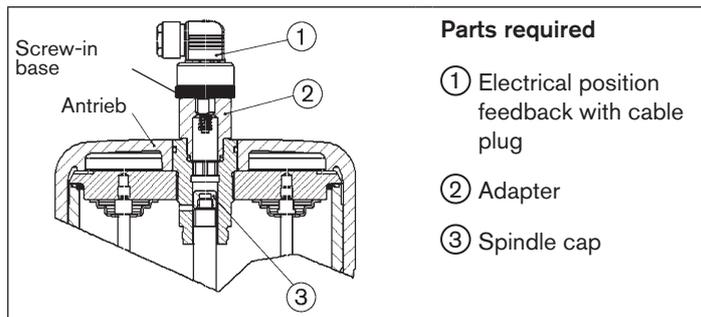

Fig. 12: Actuator size 175, 225 (Ø in mm) with electrical position feedback
- Screw adapter ② instead of transparent cap onto actuator (see "Fig. 12").
- Screw electrical position feedback ① into adapter ②, following the note in Chapter "10", page 19.